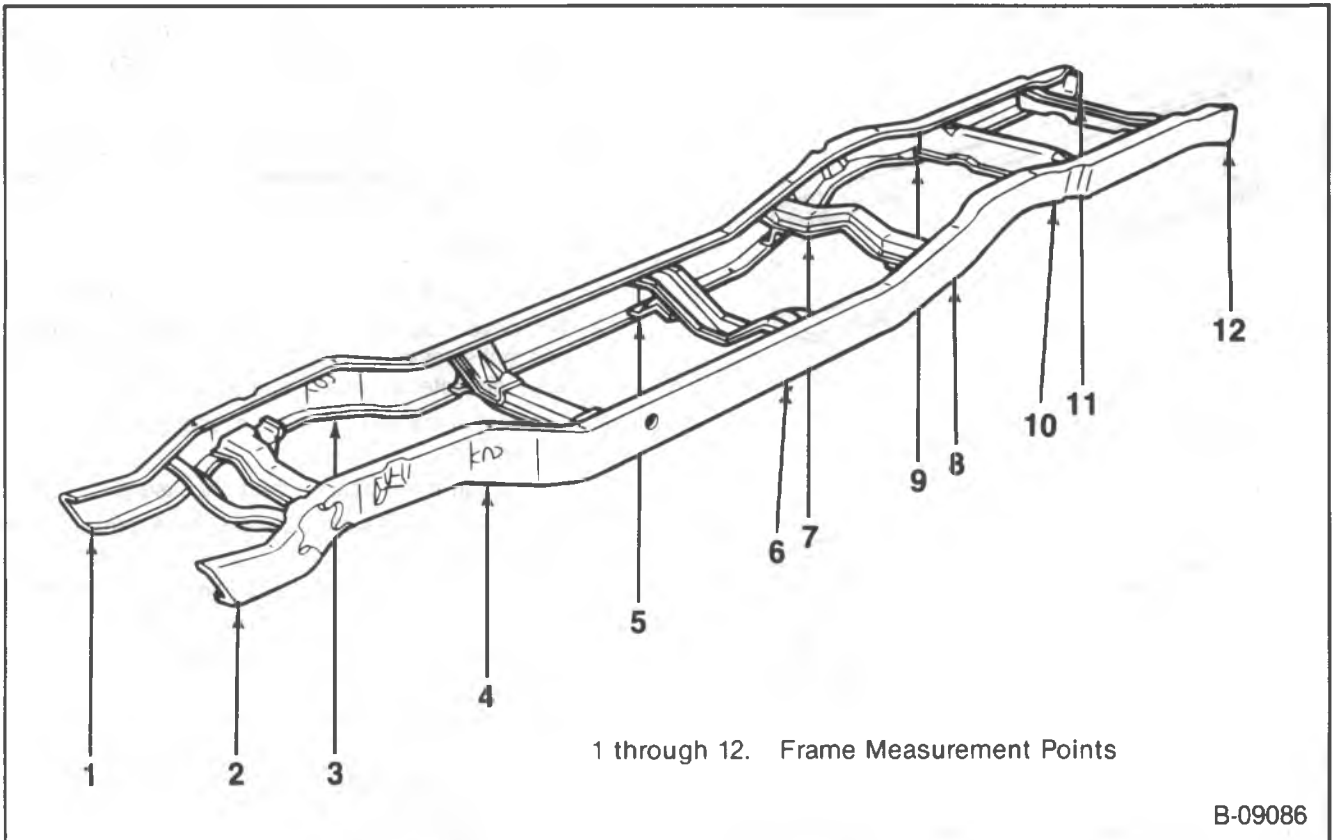

Figure 1 — R/V and P-Model Frames
DETERMINING THE FRAME CENTERLINE (Figure 1)
- a. Using a plumb bob, transfer points 1, 2, 11, 12 from the inside of the web to the floor. Mark the points (figure 1).